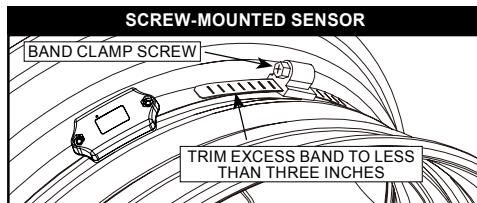

Figure 2: Screw-mounted Internal sensor final install
4. Put the sensor and sensor band in the **center position** (sometimes known as the “well”) of the wheel hub. See *Figure 2*.
5. Tighten the band clamp on the wheel hub. Ensure sensor does not move laterally or rotate on wheel hub. See *Figures 2, 4 and 5*.
- 1) On *SCREW-MOUNTED SENSOR*, trim excess band. Do not let the trimmed end of the band protrude away from the wheel. See *Figure 2*.